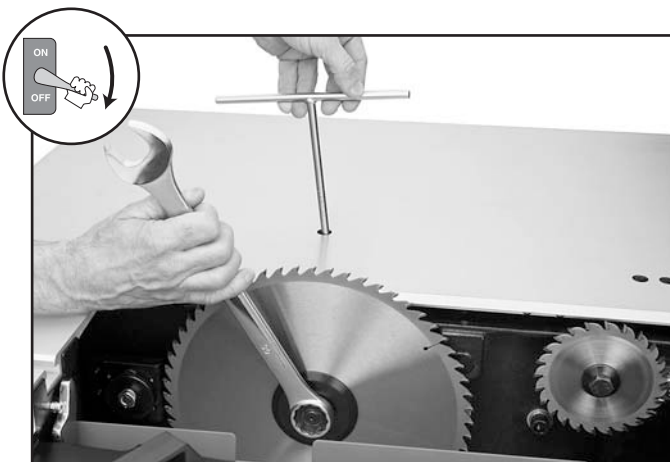

Figure 67. Loosening the main blade arbor nut.
5. Insert the provided T-handle wrench through the table top hole shown in **Figure 67** and into one of the holes in the main blade pulley under the table top. This will keep the blade arbor from rotating during the next step.